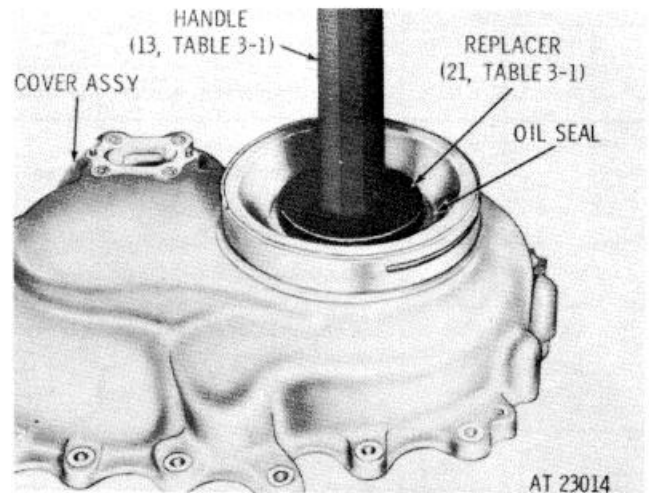

Figure 7-49. Installing output oil seal into end cover assembly.
a. If oil seal (78) was removed, install a new replacement part. Using replacer (21, table 3-1) and handle (13, table 3-1), press or drive the oil seal, spring side first, into the end cover (figure 7-49).
a. If oil seal (53) was removed, install a new replacement part. Using replacer (21, table 3-1) and handle (13, table 3 1), press or drive the oil seal, spring side first, into the end cover fig. 7-49).
c. If two speedometer drive cover mounting pad dowel pins (50) were removed, install new replacement parts. Press them into the mounting pad so that they project 0.220 from the face of the pad.
d. If four screw thread inserts (51) and four